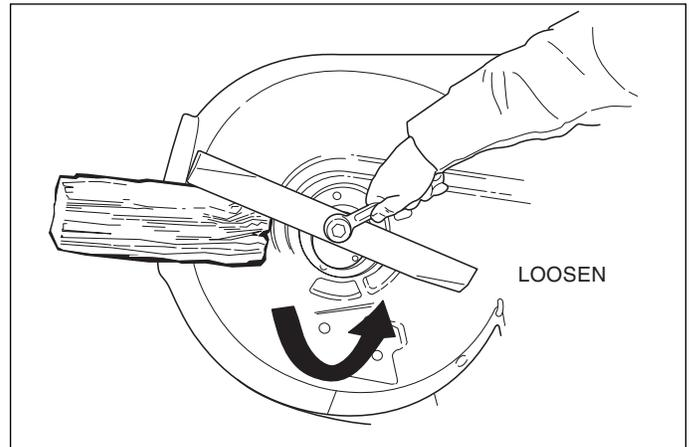

Figure 2. Blade Removal
2. See Figure 2. Remove the old blades. Use a block of wood to prevent blade rotation. Loosen the nut by turning it counterclockwise.